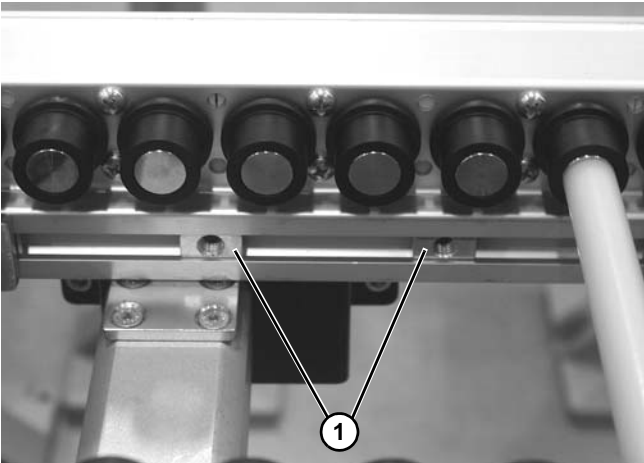

Figure 14
1. For pallet sizes under 240x240, install two spring nuts (Figure 14, item 1) in inner T-slot on both sides of the conveyor.